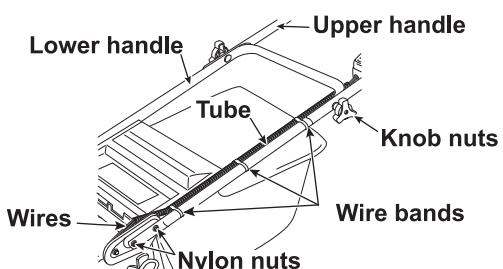

Fig. 1
1. Install the lower handle to the machine (with 4 nylon nuts). **(See Figs. 1, 2 and 3)**